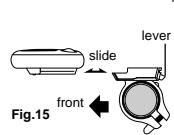

Fig.15
- Slide main unit onto the bracket from front until it clicks into position. To remove, pull it off forward while pushing down the lever . (fig. 15)